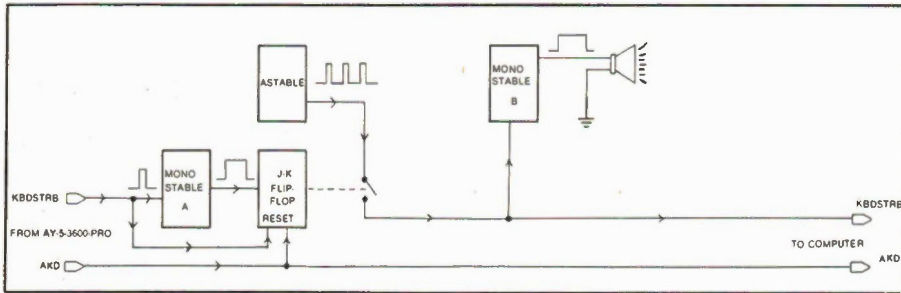
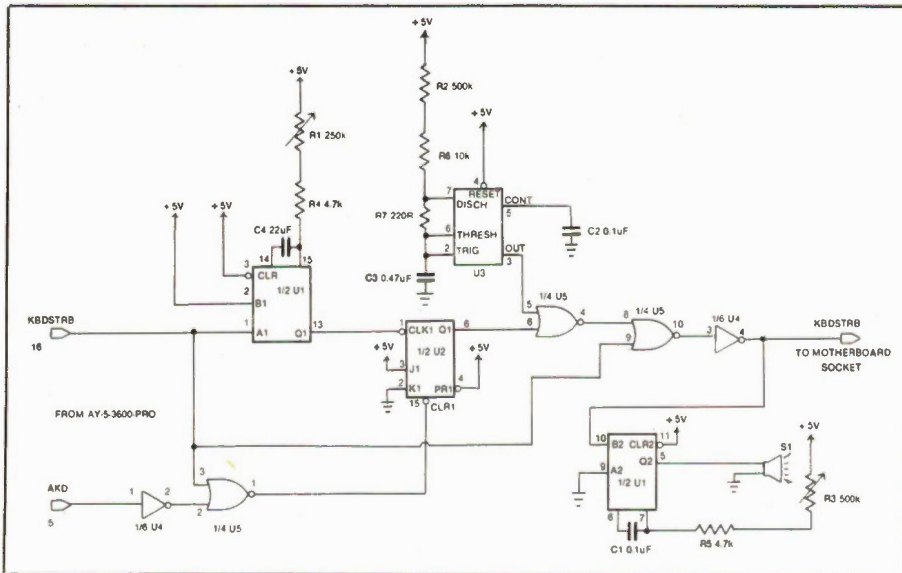

Fig. 1 The block diagram of the variable rate, key repeat board.
Fig. 2 The circuit diagram of the keyboard modification.
The circuit presented here intercepts the KBDSTRB signal between the AY-5-3600-PRO and the computer (see Fig. 1). The KBDSTRB pulse from the keyboard encoder triggers the monostable multivibrator (A), which has an adjustable pulse width via R1 (see Fig. 2). This pulse width determines the length of the pause after a key is struck, before it will begin to repeat. On the falling edge of this pulse, the J-K flip flop is set, allowing the pulse train from the astable multivibrator to be sent to the computer, causing the last key to repeat. As soon as the AKD signal goes low (the key is released) or another key is pressed, the flip flop is reset, and the repeat pulses stop.
so that it does not contact the wirewrap socket. This allows the signal to be intercepted. Pin 16 should be connected to pin 1 of U1. The corresponding KBDSTRB pin on the wirewrap socket must be connected to pin 4 of U4 (see Fig. 2).